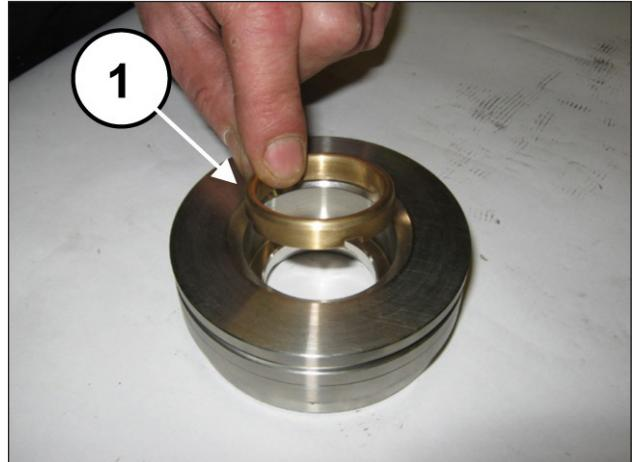
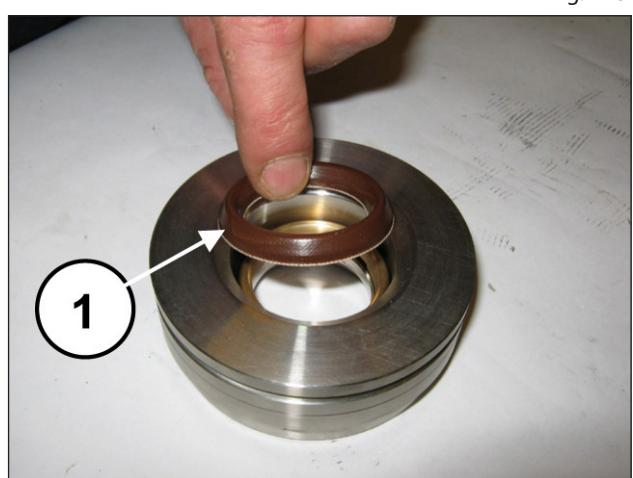
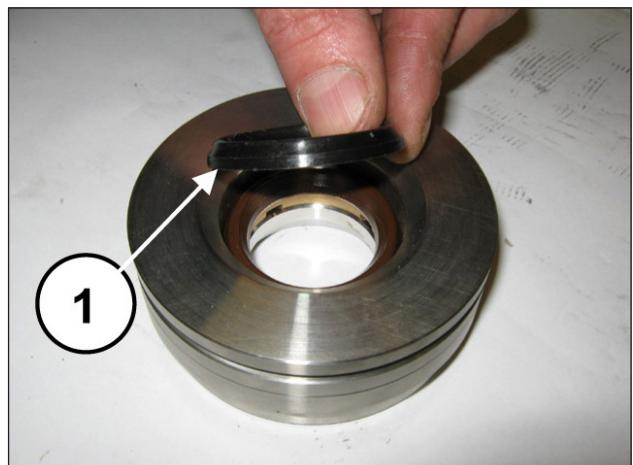

Fig. 178
Fig. 179
Fig. 180
Install the head ring (pos. ①, Fig. 178), the high pressure seal (pos. ①, Fig. 179) and the restop ring (pos. ①, Fig. 180).